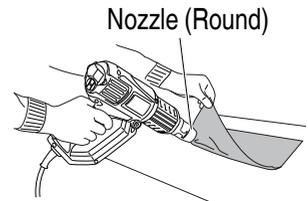

Fig. 7
2. Softening adhesive (**Fig. 7**)